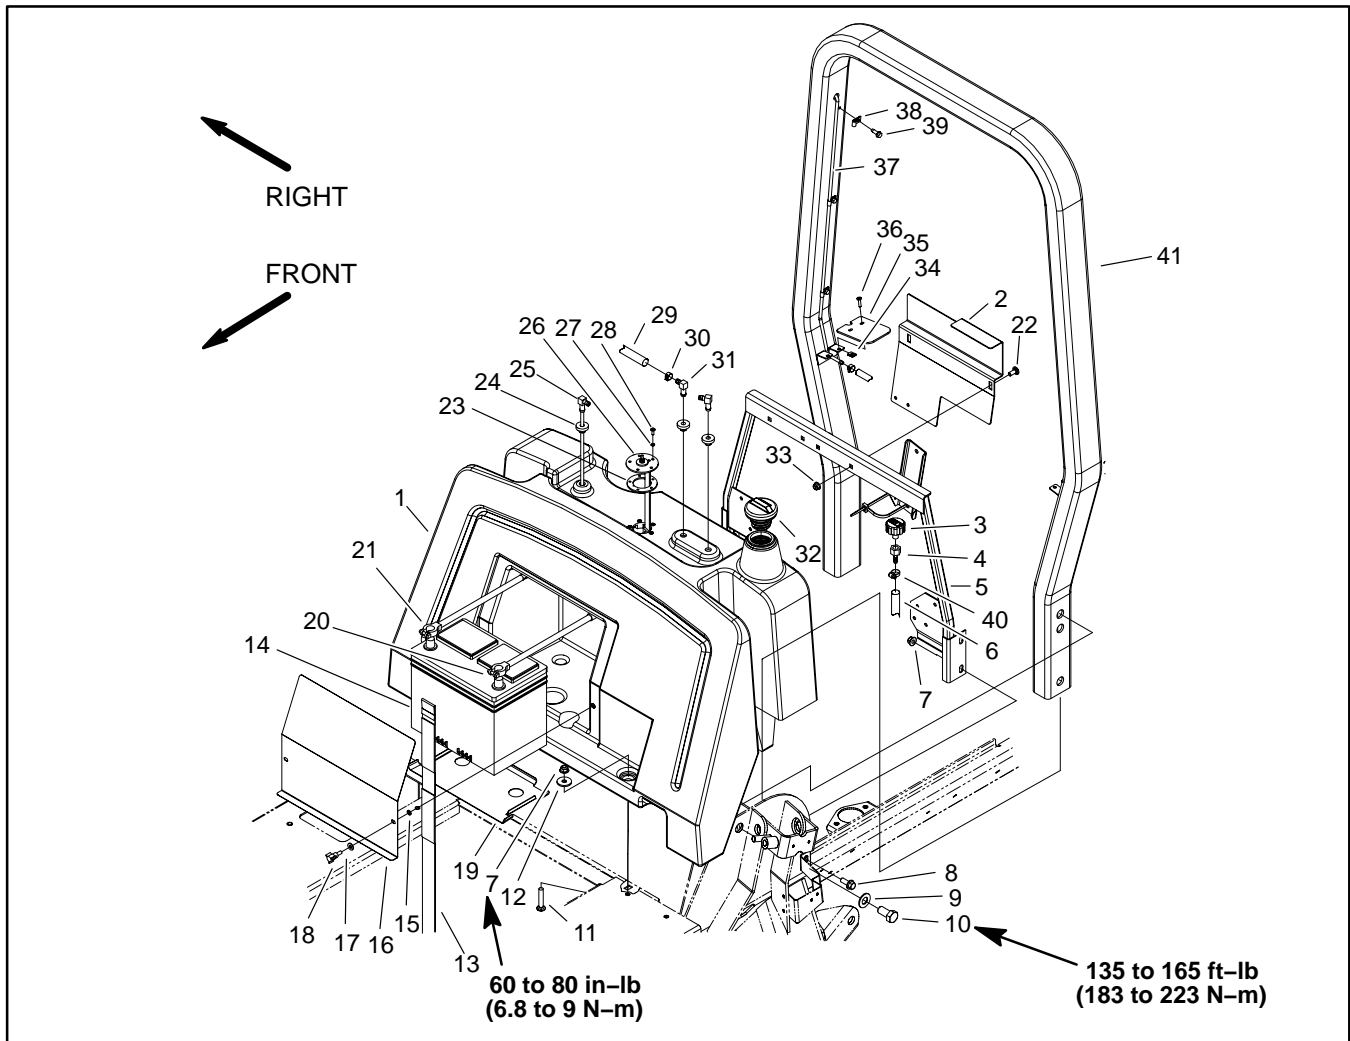

Figure 7
Fuel Tank Removal (Fig. 7)
7. Remove phillips head screws that secure two (2) tank covers to ROPS assembly. Remove tank covers.
8. Remove fuel tank using Figure 7 as a guide.
1. Install fuel tank using Figure 7 as a guide.
2. Install two (2) tank covers to ROPS assembly.